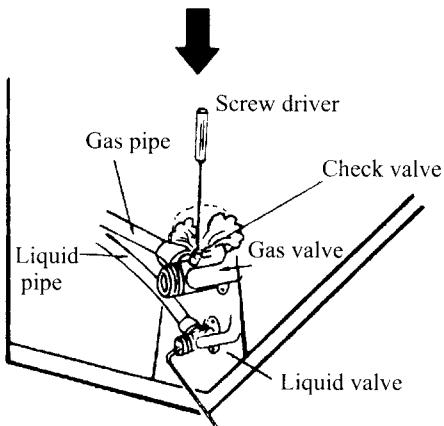

Fig 104
- (1) Put the outdoor pipe in order, if there is surplus pipe length, you canwind it around the unit and fix it properly.
- (2) Remove bonnet of the stop valve.
- (3) Match center of pipe with center of check valve joint, screw the joint nut with hand for several circles, and then tighten the cone nut properly with wrench.
- (4) Remove check valve bonnet of the liquid valve and the gas valve.
- (5) Release the spool of liquid valve with an inner-hexagon spanner, at the same time press the check valve spool of the gas valve with a screw-driver bit to exhaust.
- (6) Keep on exhausting for about 15 seconds, and after refrigerant gas comes out, shut the check valve and fasten the bonnet.
- (7) Fully open spool of the liquid valve and the gas valve (see Fig. 104).
- (8) Fasten the valve bonnet, and then check with soap water or leak-detector to see if there is leaking in the connection between the pipe and the outdoor unit.